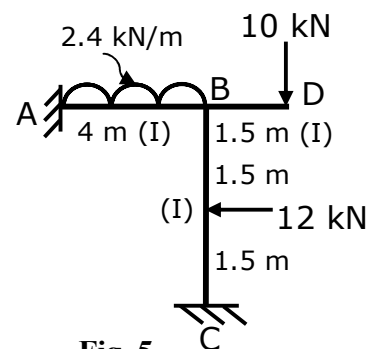

Fig. 5
- (b) Determine the support moments using moment distribution method for the frame as shown in fig. 5. Also draw Bending Moment diagram. **07**
- (b) Determine the support moments using slope deflection method for the frame as shown in fig. 5. Also draw Bending Moment diagram. **07**